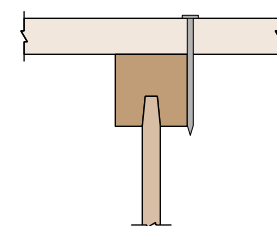

Figure 14
**Shiners** (sheathing nails that barely hit the joists) do not hold the panel tight to the joist. When the sheathing deflects, the nails rub against the side of the joist, resulting in a squeak (Figure 14).